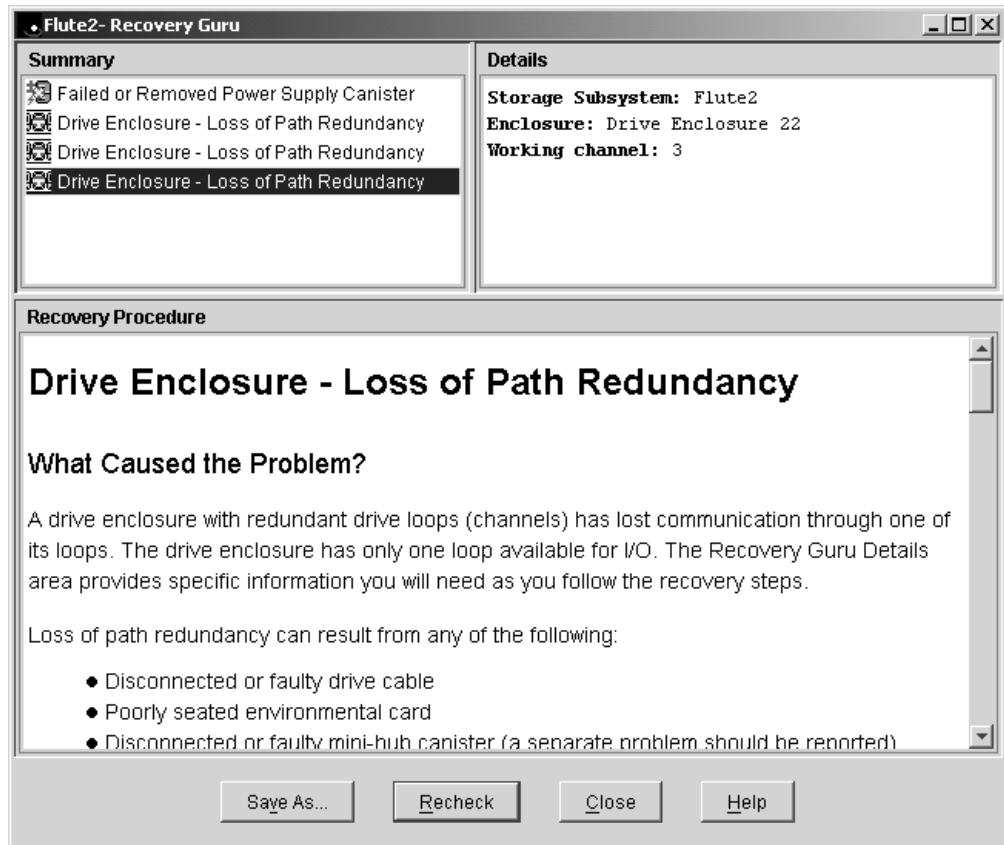

Figure 36. Recovery Guru - Loss of path redundancy
**Note:** Figure 36 on page 100 also shows the message Failed or Removed Power Supply Cannister. However, this message is not significant here because the power supply was removed for purposes of illustration.